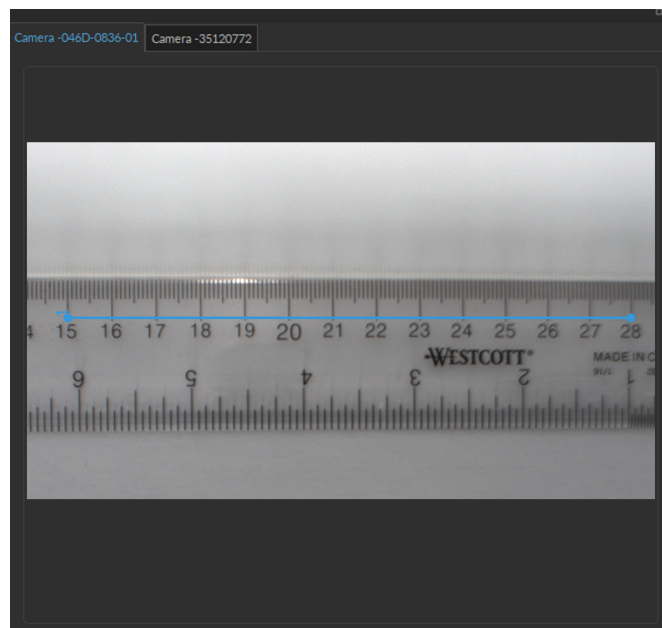

Figure 16.98: Camera Module - Calibration User-defined line
- A *User Defined (Line)* - uses a user-drawn line within the image as a reference (Fig. 16.98). This line can online be horizontal or vertical. For optimal results use an object/dimension that fills most of the image.